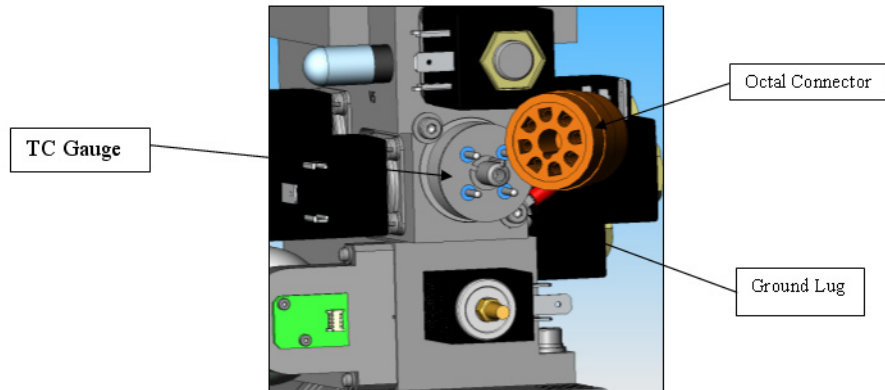

Figure 4: Octal Cable
- a. Disconnecting the octal connector from the TC gauge (Figure 4: Octal Cable).
- b. Using an M4 Allen wrench, loosen the lower TC gauge screw and remove the ground lug (Figure 4: Octal Cable).